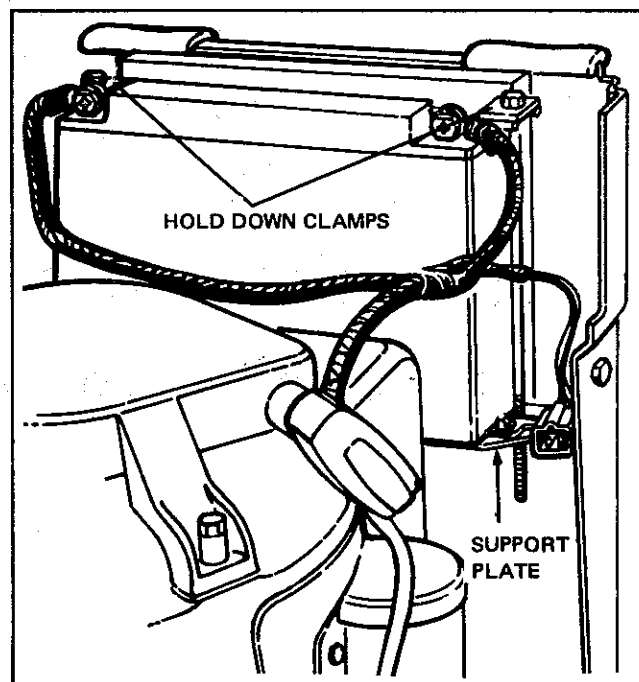

Figure 3
3. Install the battery on the support plate located at the front of the engine, and secure with the battery hold down clamps. See Figure 3.